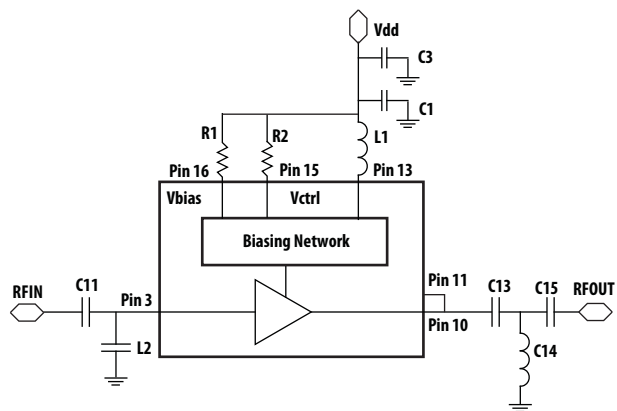

Figure 46. Circuit Diagram
1. V_{bias} and V_{ctrl} can be externally controlled by change external biasing resistors $R1 = R_{bias}$ and $R2 = R_{ctrl}$ (as shown in Fig. 46).
- Vbias and Vctrl can be externally controlled by change external biasing resistors R1 = Rbias and R2 = Rctrl (as shown in Fig. 46).